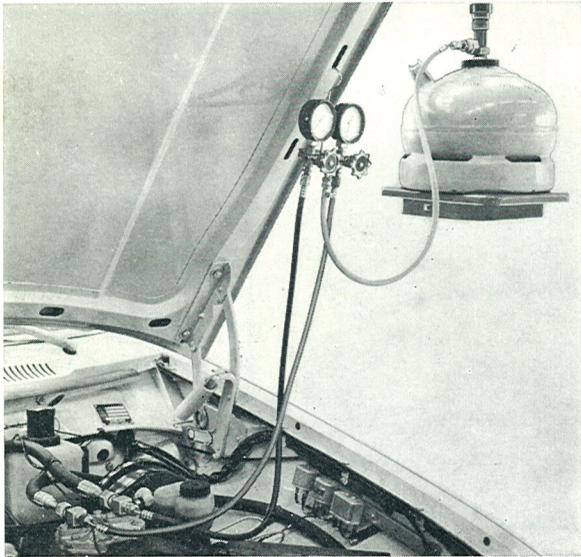

Fig. 8-98. Connecting refrigerant can
1. Disconnect the white hose from the vacuum pump and connect it to the refrigerant can (Fig. 8-98).